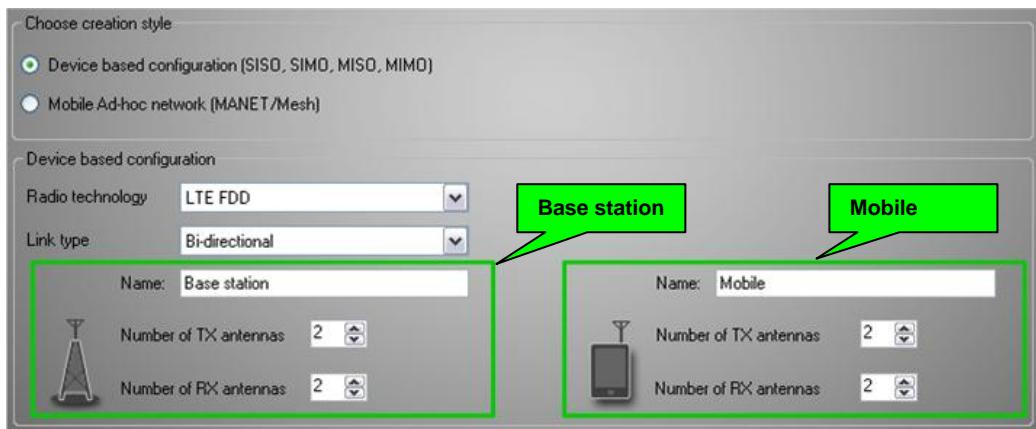

Figure 33. Creation style – Device based configuration
Creation style is selected from two options (see Figure 33): **Device based configuration** to enable SISO, SIMO, MISO and MIMO emulation creation or **Mobile Ad-hoc network** to enable MANET/Mesh emulation creation.
- Name: Device name (can be edited, default names presented in Figure 33)
Selecting Mobile Ad-hoc network creation style enables following options for creating MANET/Mesh emulation (see Figure 33):